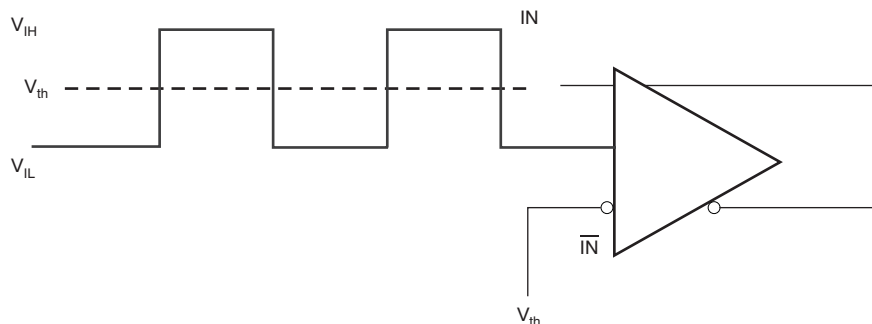
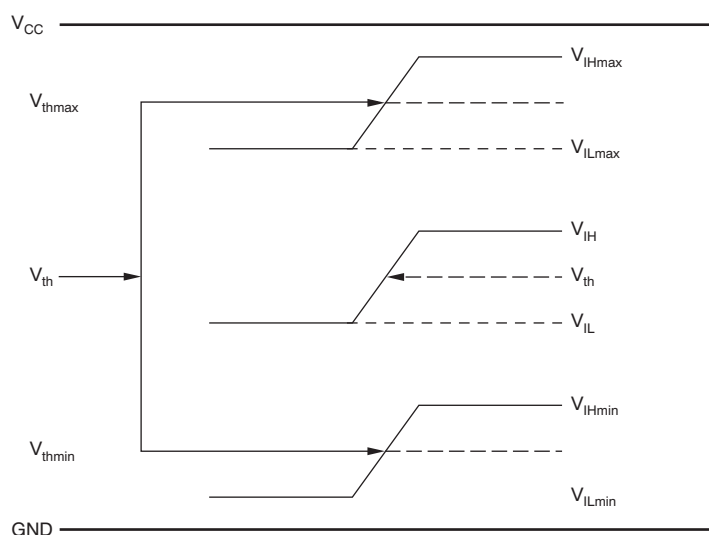
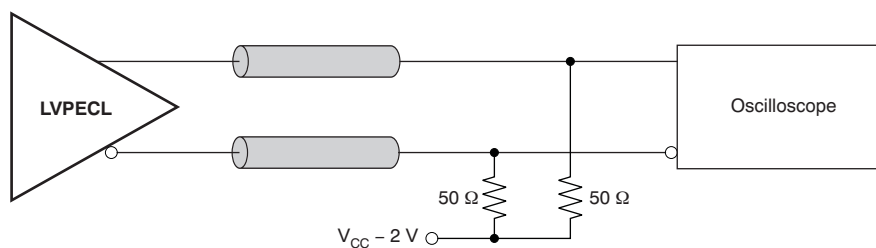
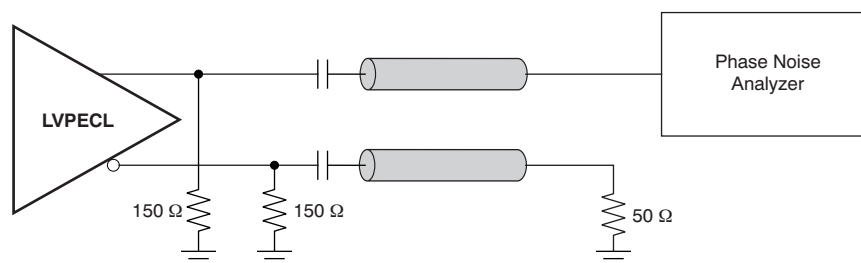

Figure 3. DC-Coupled LVCMOS Input During Device Test
Figure 4.  $V_{th}$  Variation over LVCMOS Levels
Figure 8. LVPECL Output DC Configuration During Device Test
Figure 9. LVPECL Output AC Configuration During Device Test
(1) Figure 3 and Figure 4 show dc test setup.
(1) Figure 8 and Figure 9 show dc and ac test setup.
This section describes the function of each block for the CDCLVP1204. Figure 3 through Figure 9 illustrate how the device should be setup for a variety of test configurations.